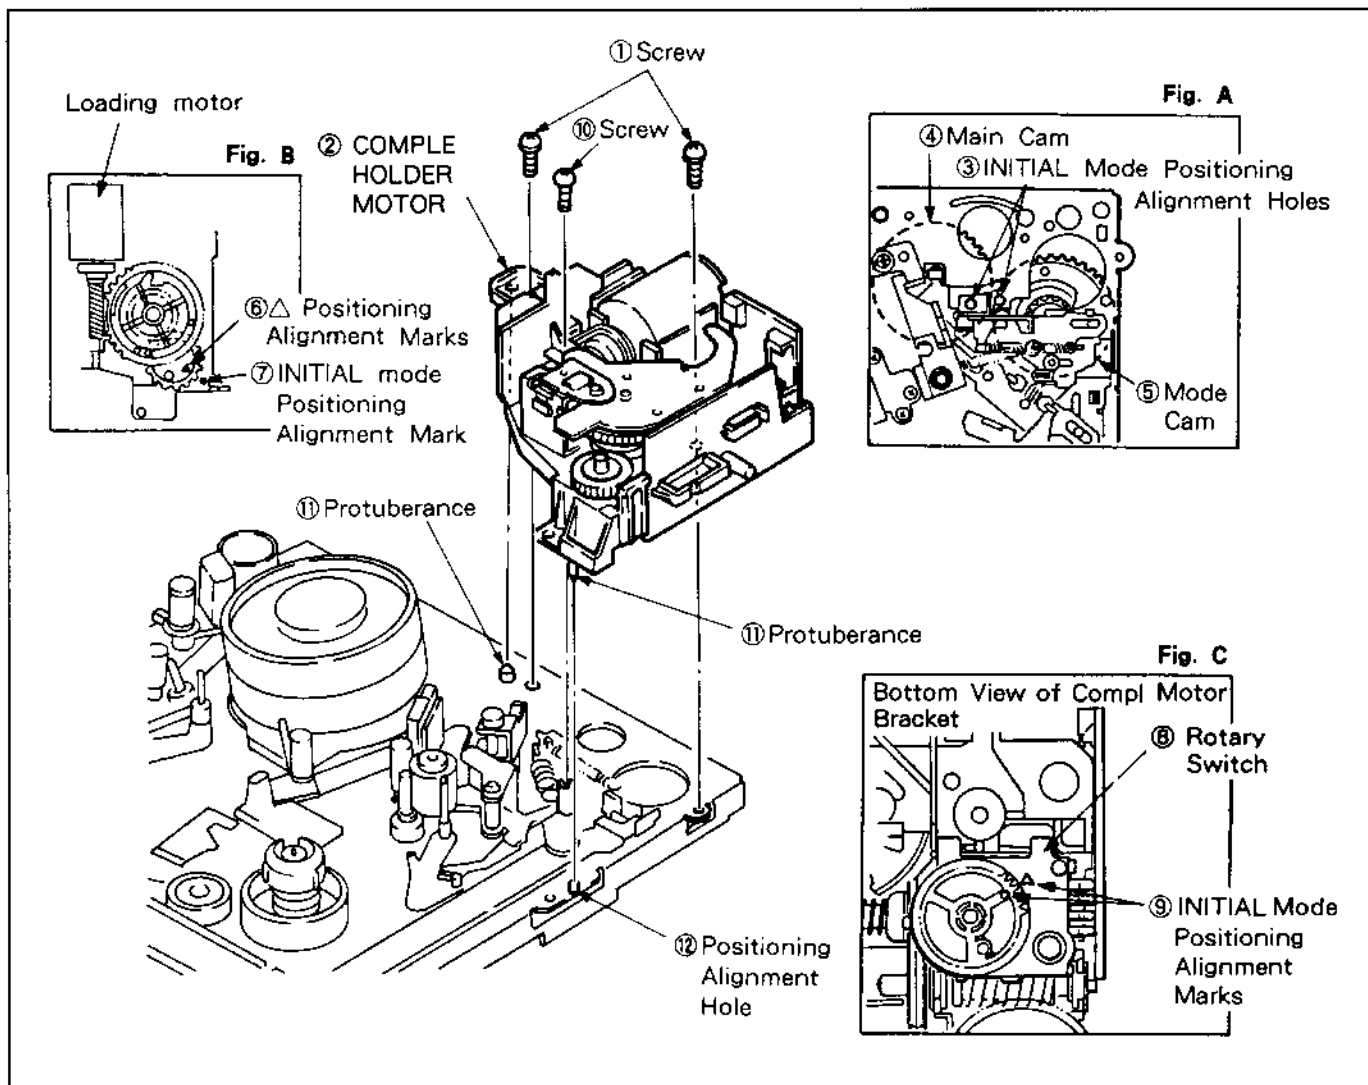

Fig. 2-3-1. Compl Holder Motor
- 3) Remove the two screws ① and the other one ⑩, then remove the COMPL HOLDER MOTOR ②. (See Fig. 2-3-1.)
- 1) Set the mechanism chassis to the INITIAL mode. In this mode, look at the mechanism chassis INITIAL mode positioning alignment holes ③ just from above and align the MAIN CAM ④ and MODE CAM ⑤ INITIAL mode positioning alignment holes as shown in Fig. A.
- 2) Set the COMPL HOLDER MOTOR ② to the INITIAL mode with the mode selector (VHJ-0050). In this position, the FRONT LOADING GEAR Δ positioning alignment mark ⑥ is aligned with the MOTOR HOLDER INITIAL mode positioning alignment mark ⑦. (See Fig. B.)
- 3) Align the ROTARY SWITCH (mode detector switch) ⑧ with the INITIAL mode positioning alignment mark ⑨. (See Fig. C.)
- 4) Line up COMPL HOLDER MOTOR ② with PROTUBERANCE ⑪ and POSITIONING ALIGNMENT HOLE ⑫, and attach with two screws ① and one screw ⑩. (Refer to Fig. 2-3-1.)